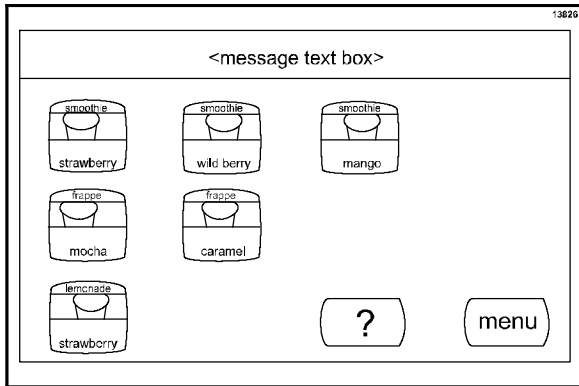

Figure 61
1. From the Beverage Selection screen, press the MENU key. (See Figure 61.)